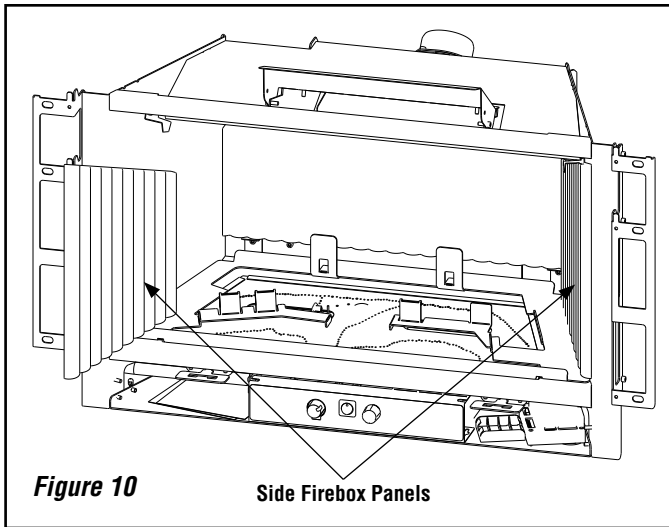

Figure 10 Side Firebox Panels
3. Install the side firebox liner panels by sliding them into place. See **Figure 10**.